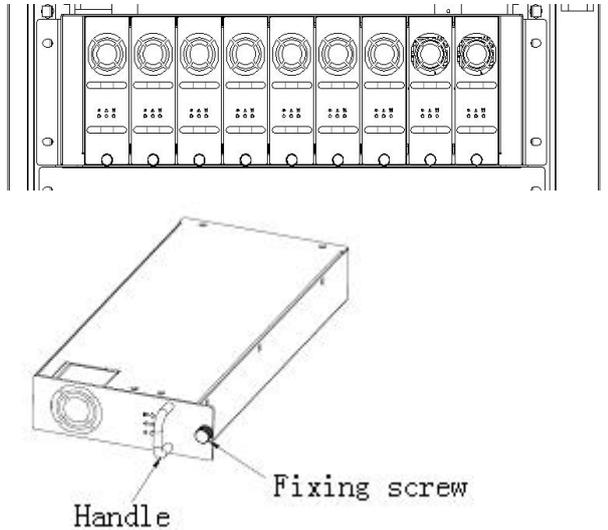

Figure 2-5 Handle and positioning latch location
- The complete installation is shown in Figure 2-5.
3. Push the handle into the front panel, at this time, the positioning latch will fix into the positioning hole, tighten the fixing screws to fix the solar module to the frame (see Figure 2-5 for the handle and the positioning latch location).